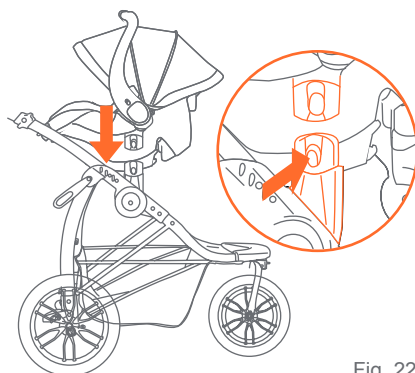

Fig. 22
22) • To take off the seat or the infant car seat, pushing both center buttons on each side of the seat and lifting seat upwards (Fig. 22). **DO NOT** remove with child in the seat.